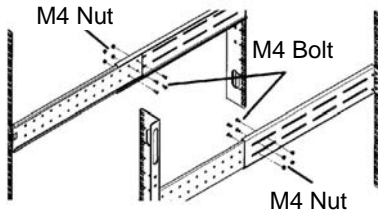

Fig. 2
- (2) Lock the front rails and the rear rails using 8 M4 bolts and 8 M4 nuts as shown in Fig.2.